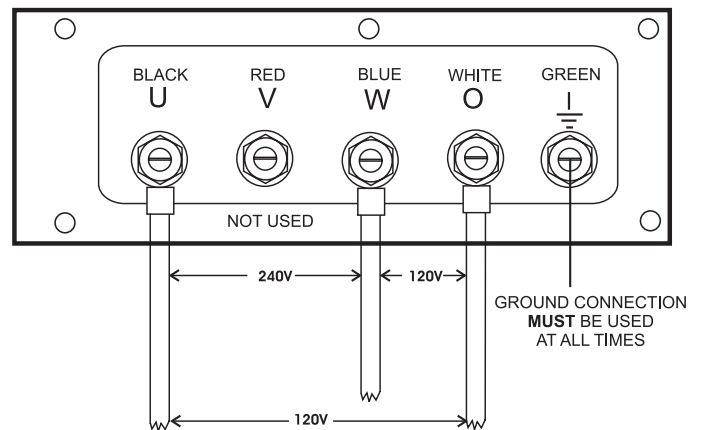

Figure 30. UVWO Terminal Lugs 1Ø-240V/120V Connections
2. Connect the load wires to the UVWO terminals as shown in Figure 30.